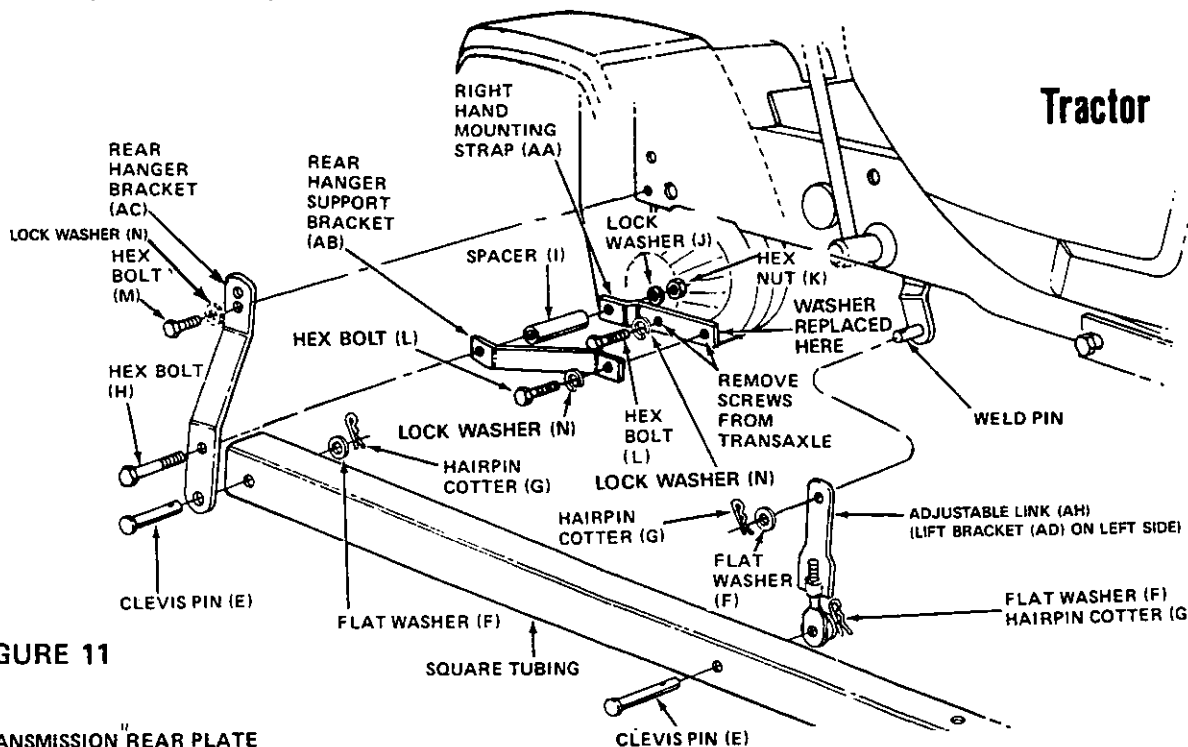
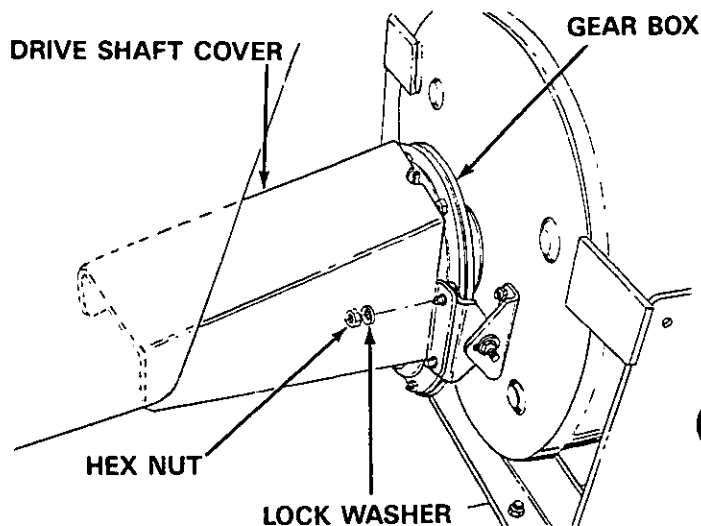

FIGURE 11
FIGURE 18
5. Place the right hand mounting strap (AA) in position on the transaxle. Spring washers removed in step 4 must be positioned between the mounting strap and the transaxle housing. Secure with one hex bolt (L) and lock washer (N) in the middle hole of the bracket. See figure 11. Tighten securely.
When assembled to the proper side, the hole farthest to the rear of the tractor will be closer to the bottom edge of the bracket than the top edge of the bracket. The bend in the bracket where this hole is located, should be offset away from the transmission housing as shown in figure 11.
6. Place rear hanger support bracket (AB) in position against mounting strap (AA). See figure 11. Secure front hole in rear hanger support bracket (AB) and mounting strap (AA) with hex bolt (L) and lock washer (N). Tighten securely.
15. Secure the rear hanger brackets (AC) to the tractor frame using the second hole from the top end of the bracket. See figure 11. Use one 1" long hex bolt (M) and one 3/8" lock washer (N) for each bracket.
16. Place 3" long hex bolt (H) into the inner hole on the end of the rear hanger bracket (AC) (bend in the bracket should be to the outside of the unit), the rear hole on the rear hanger support bracket (AB), spacer (I), and the rear hole on the mounting strap (AA). See figure 11. Secure the bottom hole of the hitch plate with lock washer (J) and hex nut (K).
18. Lift the square tubing on the snow thrower, and attach to the rear hanger brackets (AC) using clevis pins (E), flat washers (F) and hairpin cotters (G). See figure 11.
19. Place the lift in the lowest position. Attach the lift bracket (AD) to the left side of the tractor and the adjustable link (AH) to right side of tractor by placing over the weld pins on tractor and securing with flat washers (F) and hairpin cotters (G). See figure 11.
20. Secure the lift bracket and adjustable link to holes in square tubing with clevis pins (E), flat washers (F) and hairpin cotters (G). Raise the lift handle.
23. Assemble the drive shaft cover to the snow thrower by removing two hex nuts and lock washers from each side of the gear box. Place the drive shaft cover in position as shown in figure 18, and secure with lock washers and hex nuts.